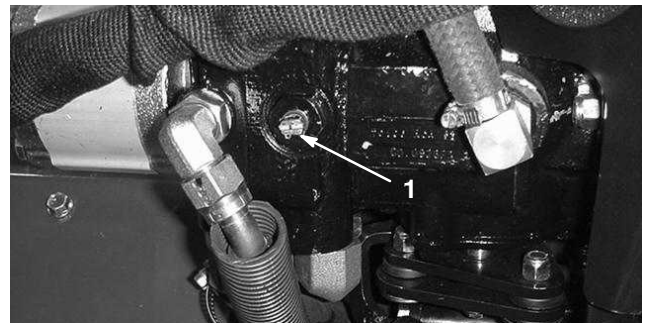

Figure 35
1. Locate the bypass valve on the pump (Fig. 35) and rotate it 90° (the bypass valve lever should be horizontal when it is open).